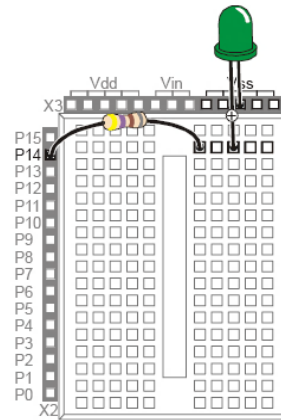

Fig 2.18: LED test circuit
- Modify the circuit connection as per figure 2.18. Use **470Ω** resistor.